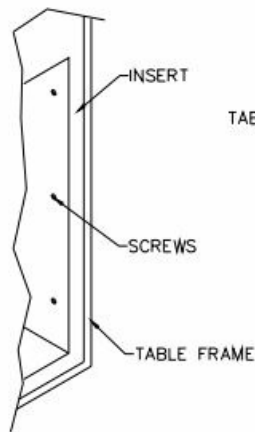

FIGURE 1
4. Remove the inserts from the base unit(s) by removing the six screws holding the insert in place (See Figure 1). The inserts will slide out the front of the unit. Being careful not to damage the flanges around the insert, set the inserts aside.